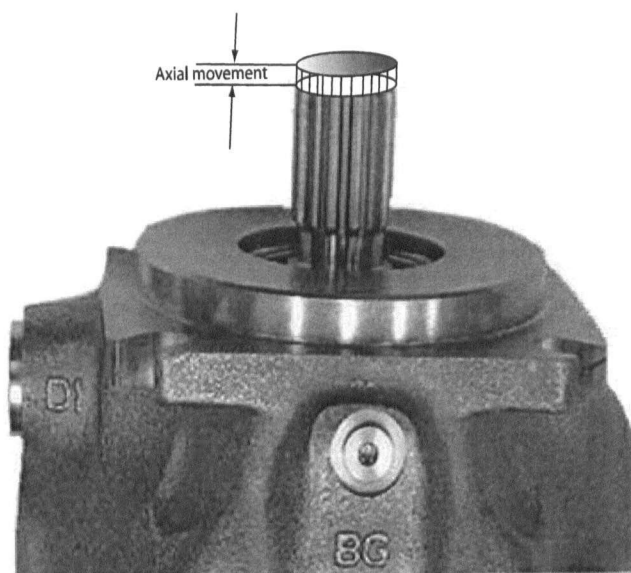

Figure 3
10. Grasp the shaft and pull it up and rotate it 3-5 times. Measure the height of the shaft end to the parallel bar. Note: if the shaft slips or falls, the steps must be repeated to get an accurate measurement. Figure 3